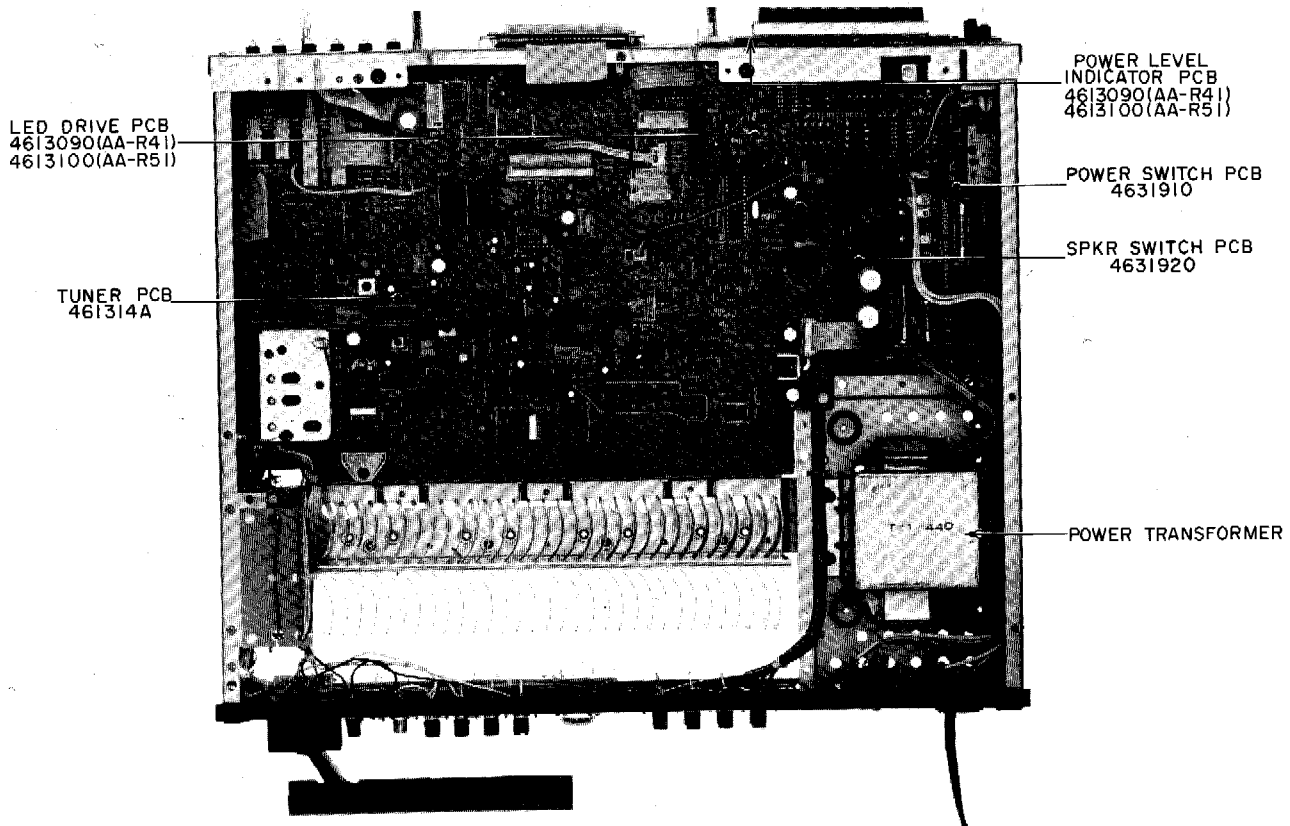
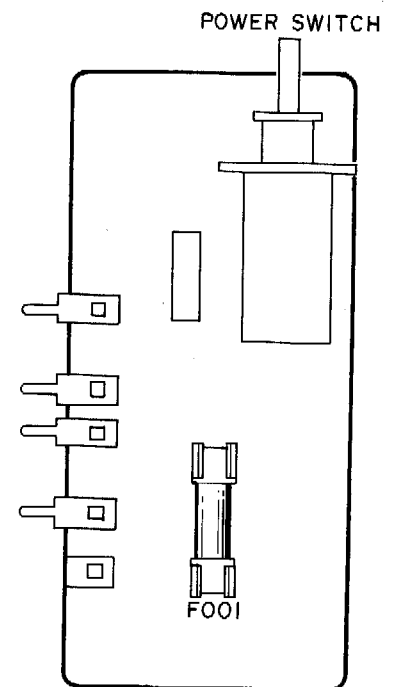

Fig. 5 Top View
Fig. 8 Power Switch P.C Board
5. Change the fuse (F001) located on the Power Switch P.C Board. (Refer to Fig. 5 and Fig. 8)